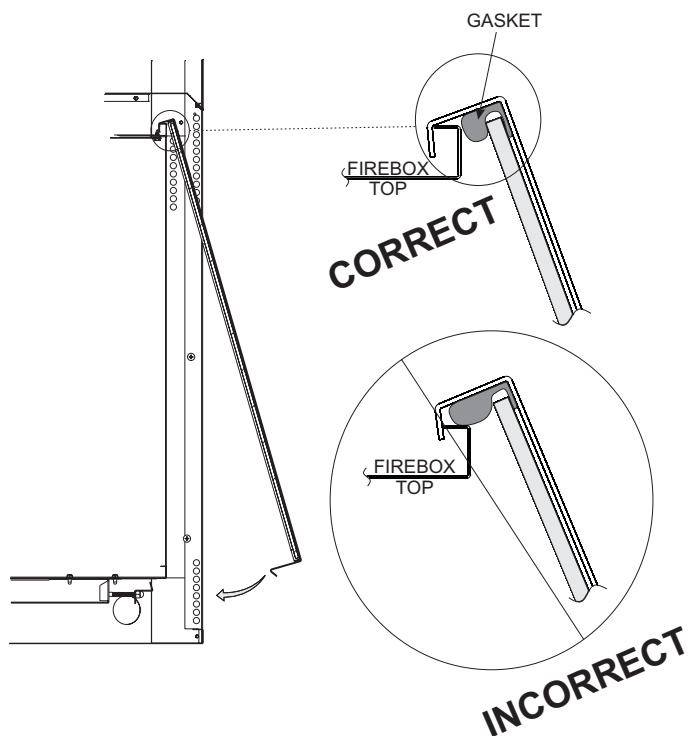

Figure 78
7. Reinstall glass front by hanging the top of the frame on top of the firebox, making sure the gasket at the top is positioned in front of the firebox flange and not on top **See Figure 78.**
1. When installing the glass door, make sure that the door top flange is hooked over the firebox top flange as illustrated in the "Correct" view in Figure 78.
**Important: Do not allow the gasket across the top of the door to roll up on top of the firebox flange as shown in "Incorrect" view in Figure 78.**